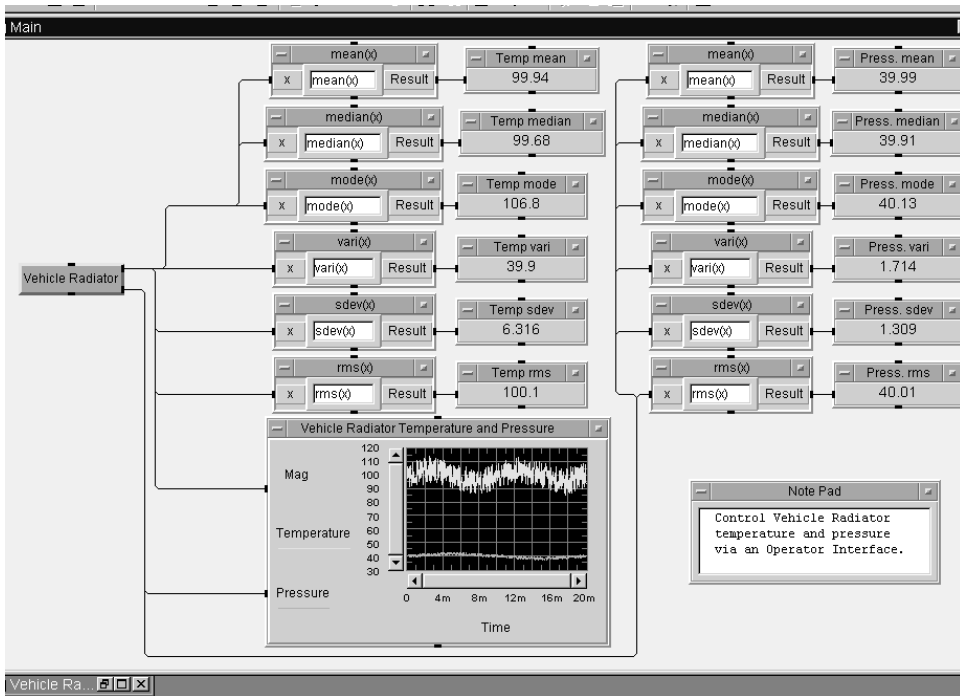

Figure 8.8. Vehicle Radiator Temperature and Pressure parameters displayed
13. Close the Vehicle Radiator User Object via the upper-right “-”; run this program. See Figure 8.8.